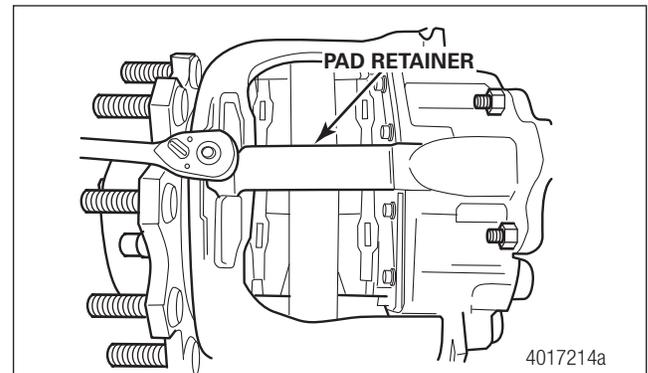

Fig. 6.6 Pad Retainer
STEP 2 - Use a 17 mm wrench to remove the pad retainer bolt. Remove the pad retainer. Figure 6.6.